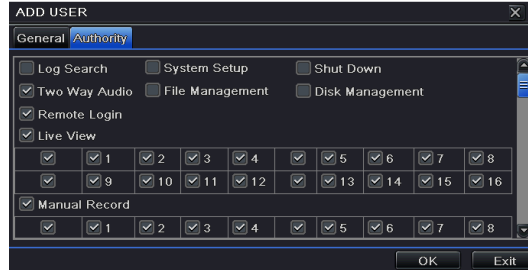

Fig 4-36 Add User-Authority
Step 5: Select Authority tab and then assign the operation rights for particular user. Refer to fig 4-36.